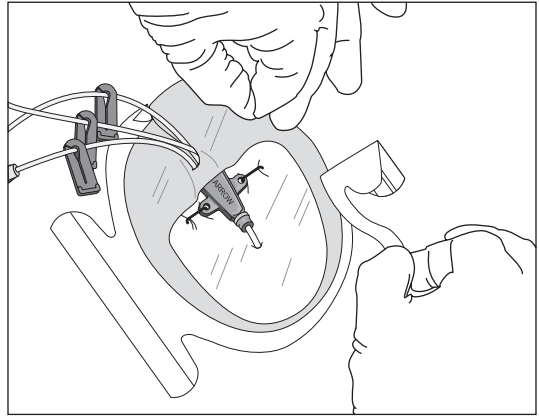

Figure 14
- Slowly remove frame while smoothing down dressing edges. Smooth dressing from center toward edges, use firm pressure to enhance adhesion (refer to Figure 14).